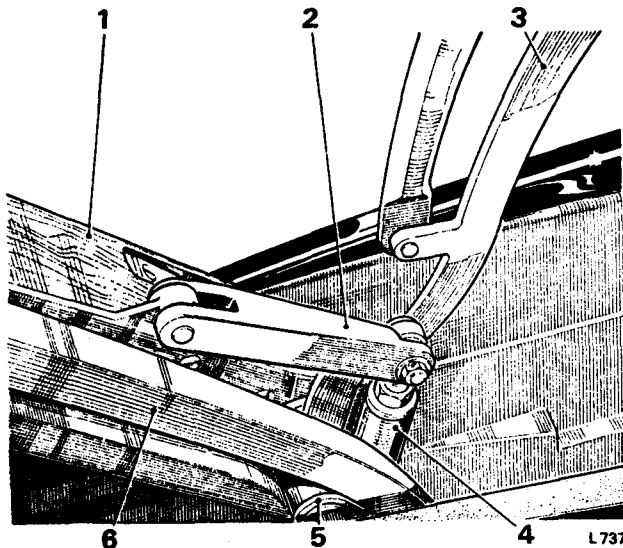

FIG. S76 HOOD LINKAGE TO RAM
Remove the bolt securing the ram eye bolt to the head link. Secure the hood to the windscreen upper rail with the safety catches. Slacken the bolt and nut securing the ram to the body; do not remove the bolt. Slacken the ram eye bolt lock-nut (see Fig. S76) and adjust the length of the eye bolt until the bolt securing the eye bolt to the head link can be fitted; fit and tighten the bolt. Tighten the eye bolt lock-nut and the bolt securing the ram to the car body.
Hood folding mechanism side assembly**—To remove****(see Fig. S76)**
7. Remove the bolt securing the hood rear cross-member to the main head plate on the main mounting bracket (see Fig. S76).
8. Remove the split pin from the nut and remove the nut and bolt securing the link to the ram eye bolt (see Fig. S76).
9. Remove the bolts securing the main hood mechanism mounting brackets to the quarter panels (see Fig. S76); remove the side assembly.